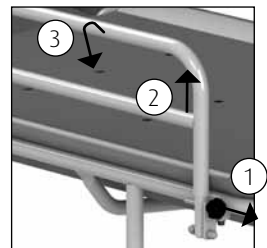

Figure 4: Side bar mobile stretchers / dressing tables
Mobile stretcher / dressing table: Unlock the safeguard by removing the bolts on both sides of the side bar (1) (See figure 4).
- Turn the unlocked side bar outwards (3).